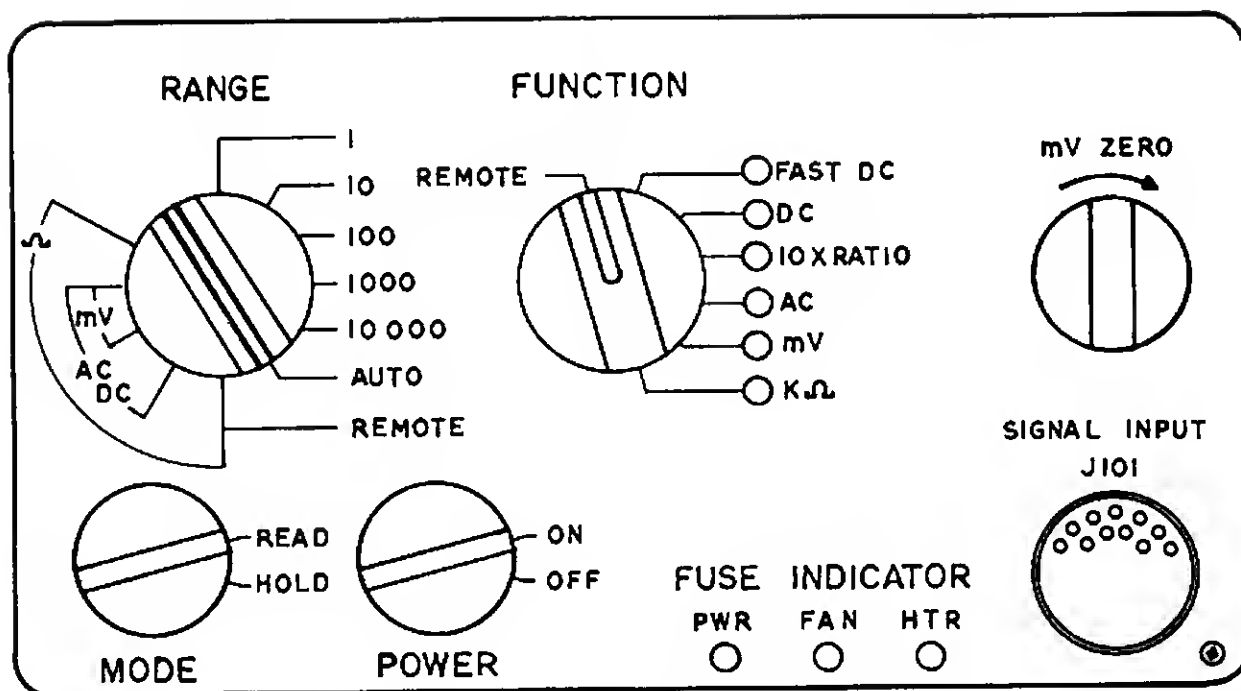

Figure 2.1. Control Panel
2.25 CONTROLS (See Figure 2.1)